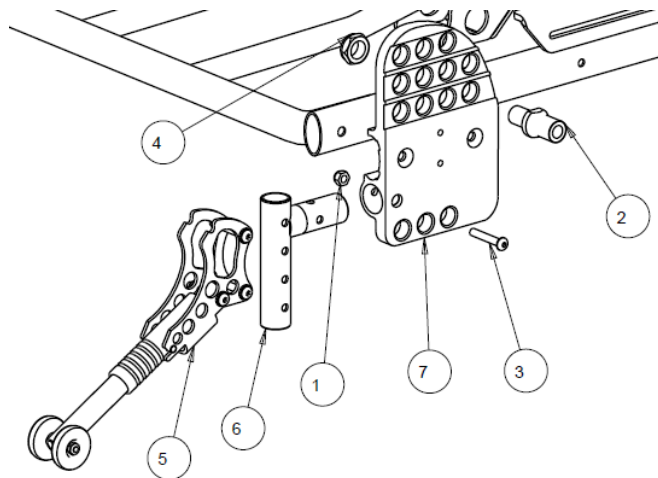
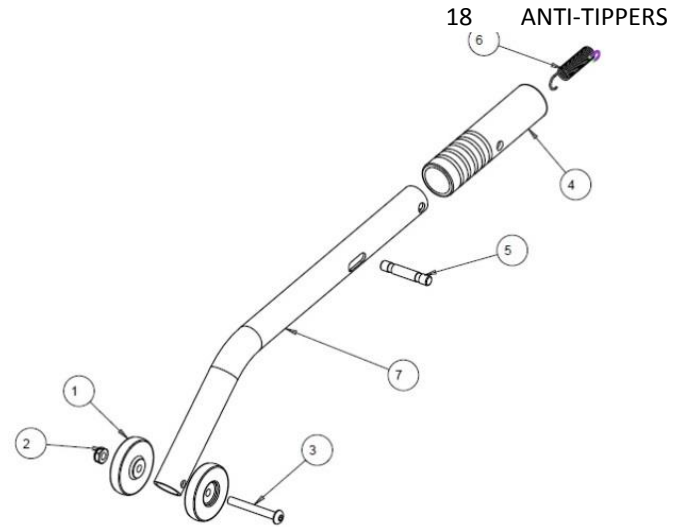

Figure 26
Figure 27
Installing/ adjusting anti-tippers [Figure 26, Figure 27]
1. Insert anti-tipper (5) into the tube weldment (6) as show in Fig 26 making sure to align the two holes of the anti-tipper to the tube weldment.
2. Screw two bolts to secure the anti-tipper (5) to the tube weldment (6).
3. Insert the tube weldment into the hole of the axle plate (7).
5. Once the holes are aligned, screw bolt (3) and nut (1) through the holes to secure anti-tipper to the wheel chair.
8. The height of the anti-tippers can be changed by aligning the two holes on the tube weldment and the anti-tipper. Refer to item (6) in Fig 26.